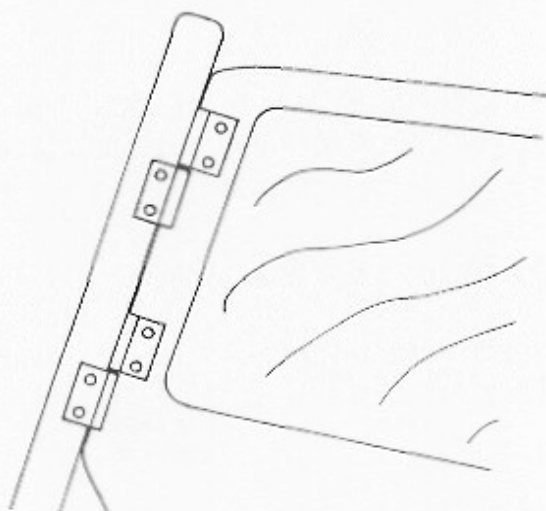

Figure 13.3 Side Screen Fixings
3.3 Position the other halves of the hinges above those fitted to the screen and temporarily insert the brass hinge pins. Mark the locations of the hinge mounting holes on the outside of the side screens and drill 3/16" holes through the metal frame within the screen. For ease of marking, stick masking tape onto areas where the hinges are expected to locate and before drilling make sure that all the holes form one line. See figure 13.3